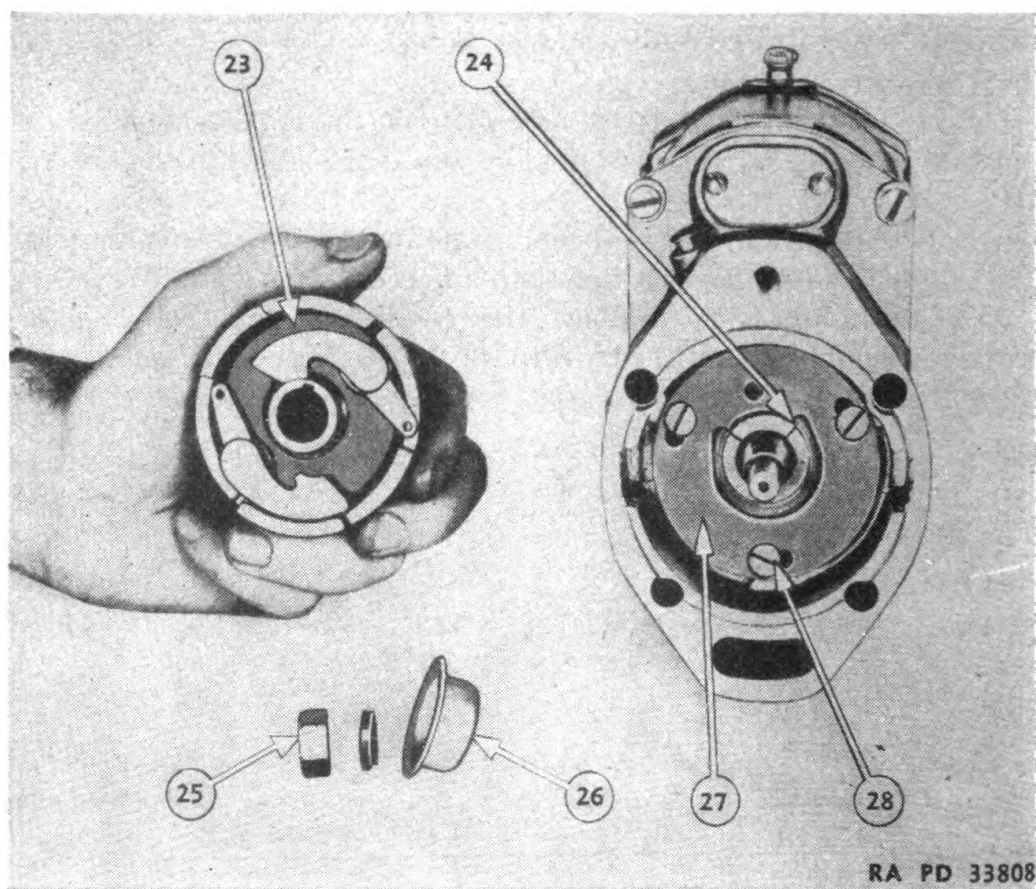

FIGURE 93.—Impulse starter assembly.
(20) from the condenser post. Remove screw (21) and slide out condenser (18). To check the condenser, use the post as one terminal and the condenser case as the other terminal in series with a lamp on a 110-volt circuit. If the lamp lights, the condenser is burned out. A 6-volt battery circuit may be used if 110 volts is not available.
96. Impulse starter.—*a.* The impulse starter (23) (fig. 93) may be removed by removing nut (25) and prying with two screw drivers between the catch plate and flange.
h. If the impulse starter drive cup binds against the flange after assembly, install a spacing washer under retaining cup (26) (fig. 93) to prevent contact between the two assemblies.